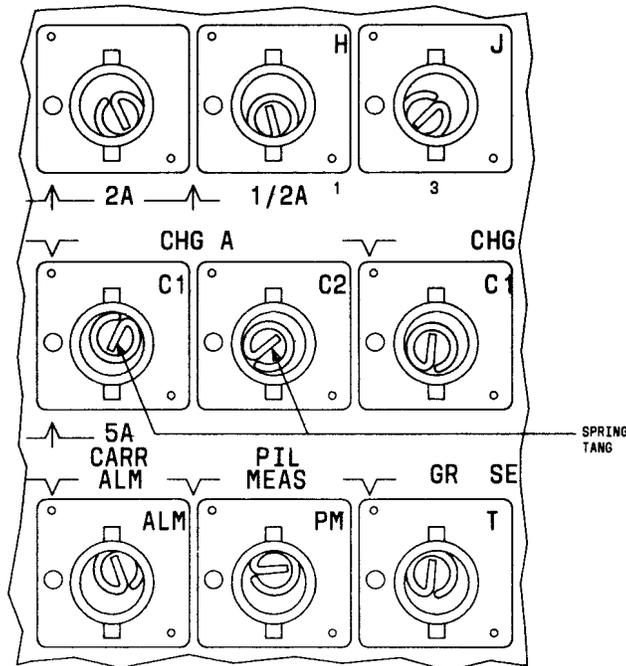

Fig. 7—Fuse Panel
- (1) Either place necessary jumpers across fuse line to continue service or repair while service is disconnected.
- (2) Remove fuse cap and fuse.
- (3) Visually locate the position of the spring tang (Fig. 7) in the fuse block. Use a portable light if necessary.